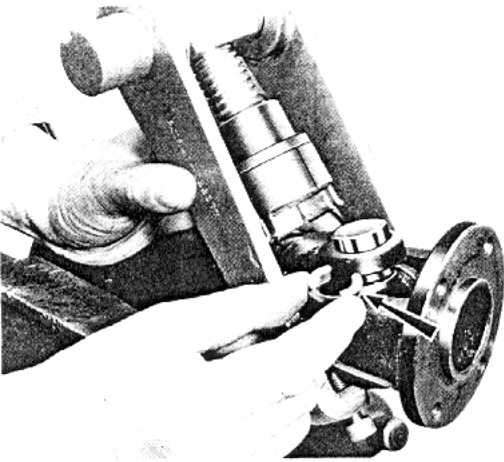

Fig. 8-14 Installing spacer
5. Loosen the center bolt and install the spacer between the yoke and the spider as shown in Fig. 8-14.